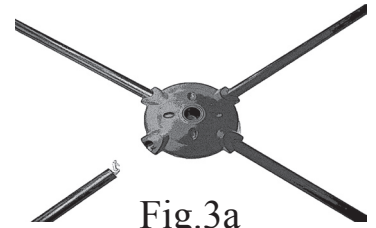
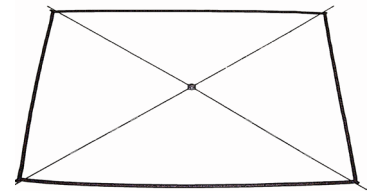

Fig.3a
Fig.3b
3. Place the Center Pole Receptor in the center of the Nylon Base. Insert the male ends of the four poles into each of the four holes in the Pole Receptor. (Fig.3a) The poles should be pointed toward the four corners of the nylon base. If they do not point toward the corners, rotate the Pole Receptor 90 degrees. (Fig.3b)